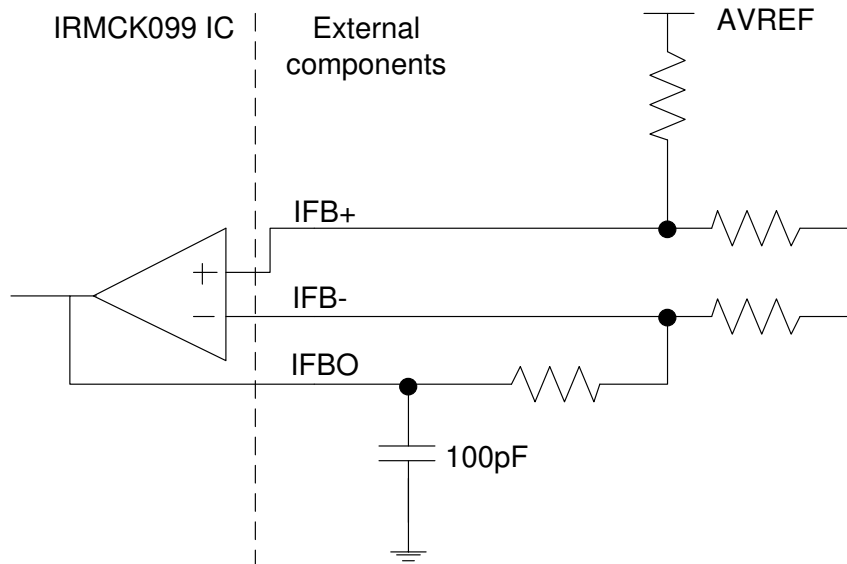

Figure 6. Op amp output capacitor
- (1) Data guaranteed by design.
- (2) To guarantee stability of the operational amplifier, it is recommended to load the output pin by a capacitor of 100pF, see Figure 6. Here only the single shunt current amplifier is shown but all op amp outputs should be loaded with this capacitor value.